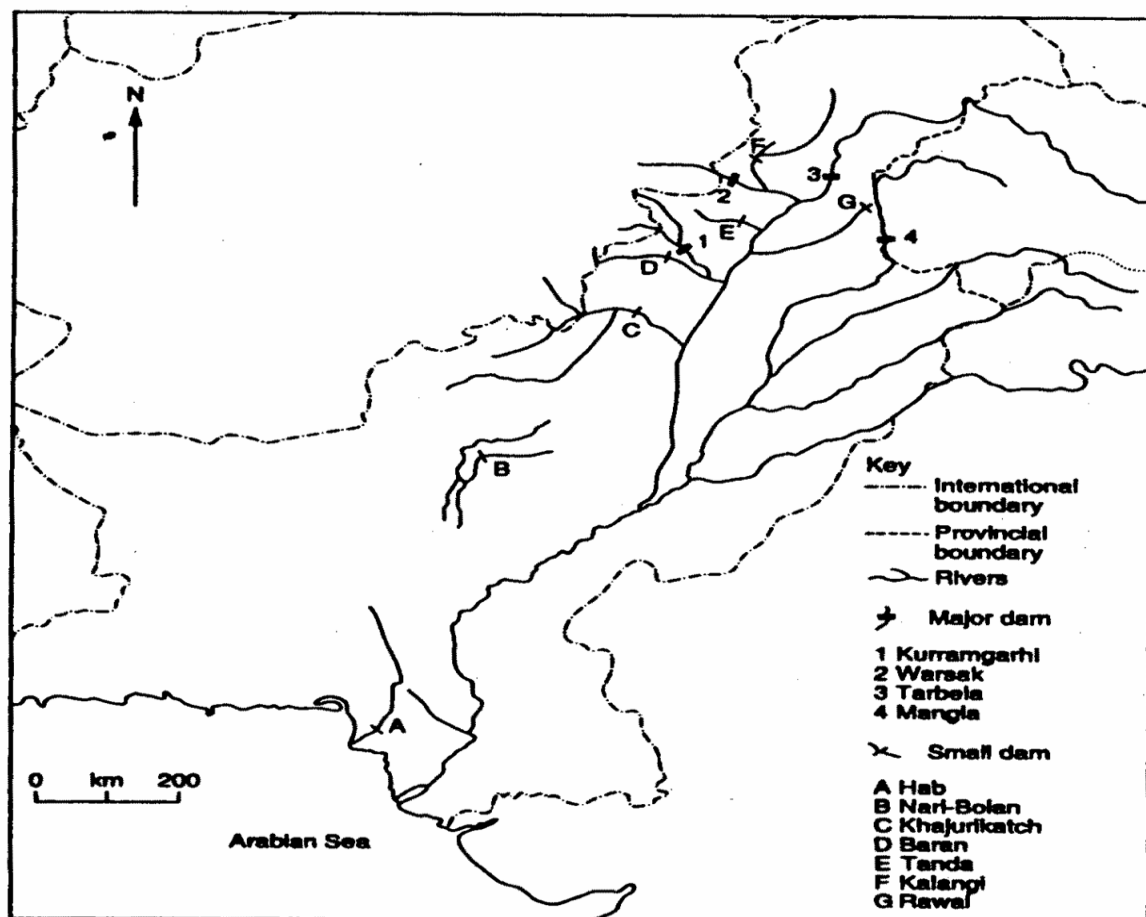

Fig.4
Study **Fig.4**, which shows the distribution of large and small dams.
Q.2 Study the map, Fig.4, describe the distribution of the dams.